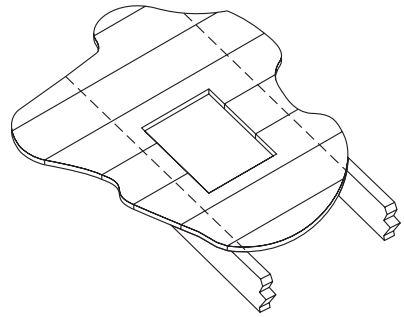

Figure 19
5. Remove shingles or other roof covering as necessary to cut the rectangular hole for the Support Box. Cut the hole 1/8-inch larger than the dimensions of the Support Box. (*Figure 19*). The rectangular hole should be centered on the